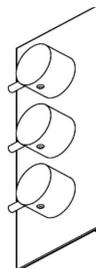

Fig 9
15. For triple valves the temperature control is in the centre, with the on/off controls top and bottom (Fig 9)